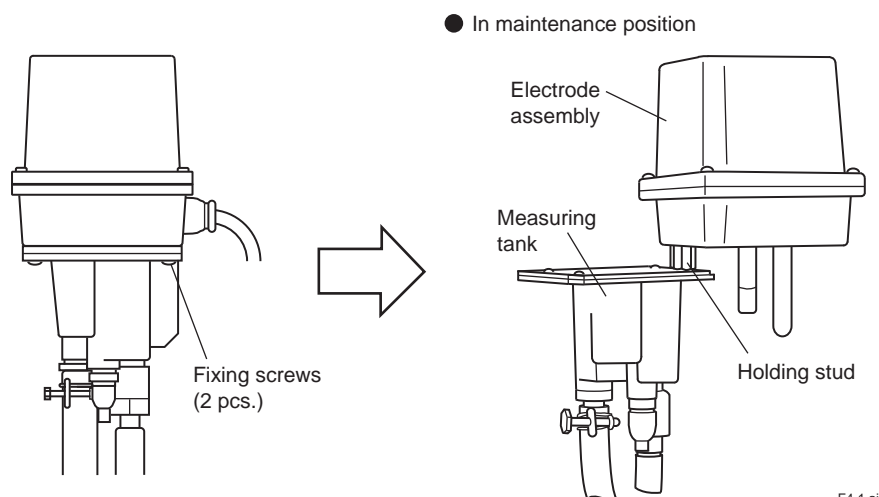

Figure 4.1 Removal of Electrode Assembly
- (1) As shown in Figure 4.1, mount the electrode assembly to the holding stud. The electrode assembly is fixed to the measuring tank assembly using two screws.